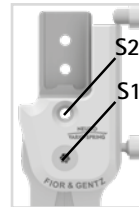

fig. 12
- 9 Screw in the first countersunk flat head screw (axle screw, S1; fig. 12).